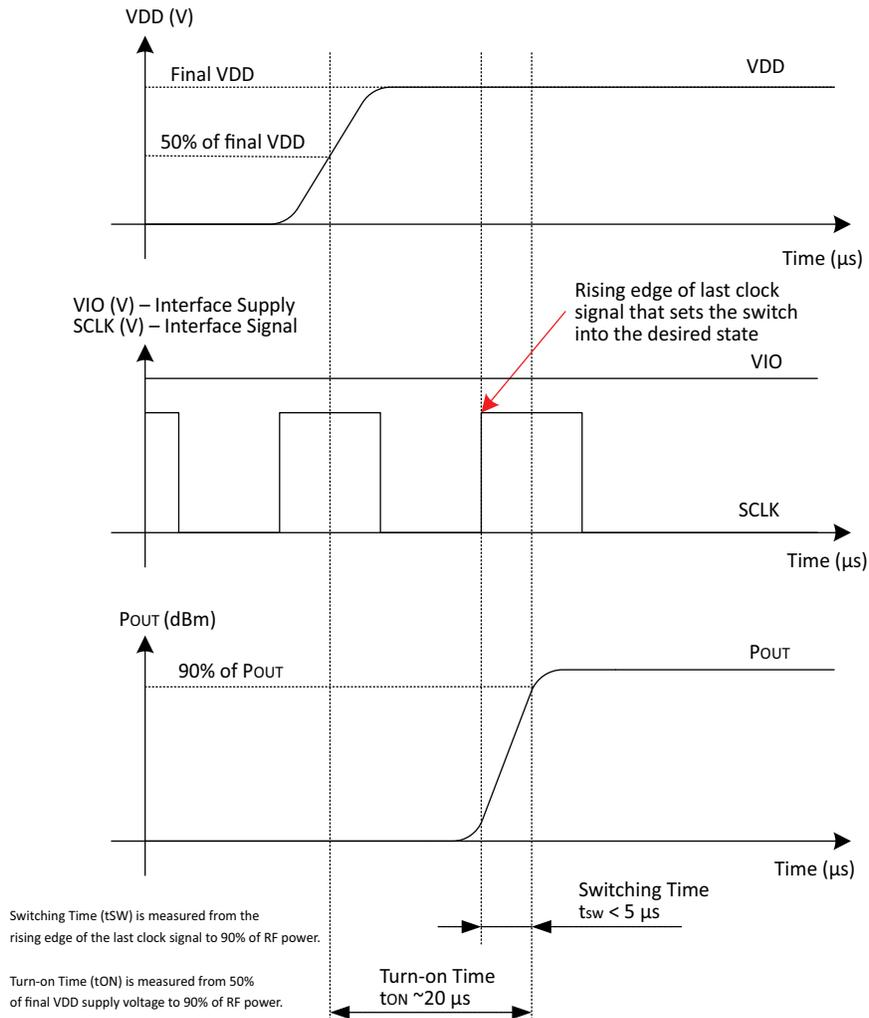

Figure 4. Timing Diagram
2. P_{IN} = +27 dBm, T_A = -40 to +90 °C. See Figure 4.